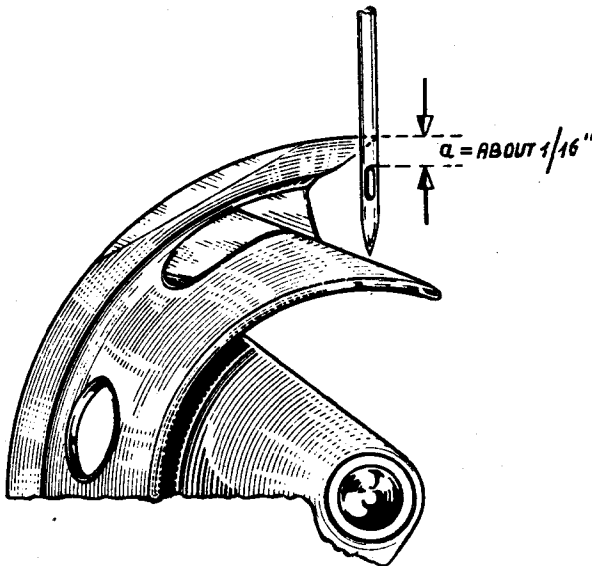
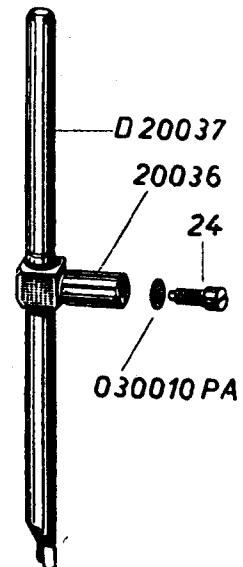
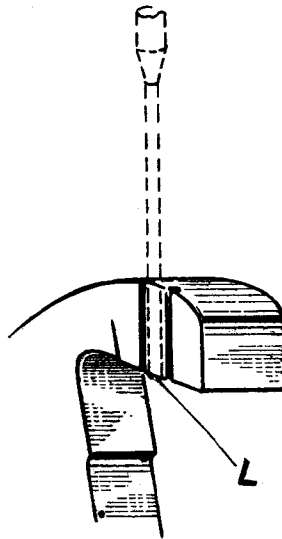

Fig. 16
Fig. 17
Fig. 19
At this moment the point of the shuttle should be about  $1/16''$  above the upper part of the needle eye (Fig. 16). If the distance  $a$  is more or less than  $1/16''$ , an adjustment is necessary. Loosen slightly the screw No. 24 (Fig. 17) in the needle bar connecting stud No. 20036 so that the needle bar No. D 20037 is still held in position by friction.
a. Bring the needle bar to its lowest position. In this position, the lower end of the false needle should be just in line with the lower edge «L» of the prong of this gauge, as shown in Figs. 19 and 20. If an adjustment of the height of the needle bar is necessary, loosen slightly screw No. 24 (Fig. 17) so that the needle bar is still held in position by friction. Then, without turning the balance wheel, move the needle bar up or down by hand until the condition shown in Figs. 19 and 20 is met. Tighten screw No. 24 firmly.